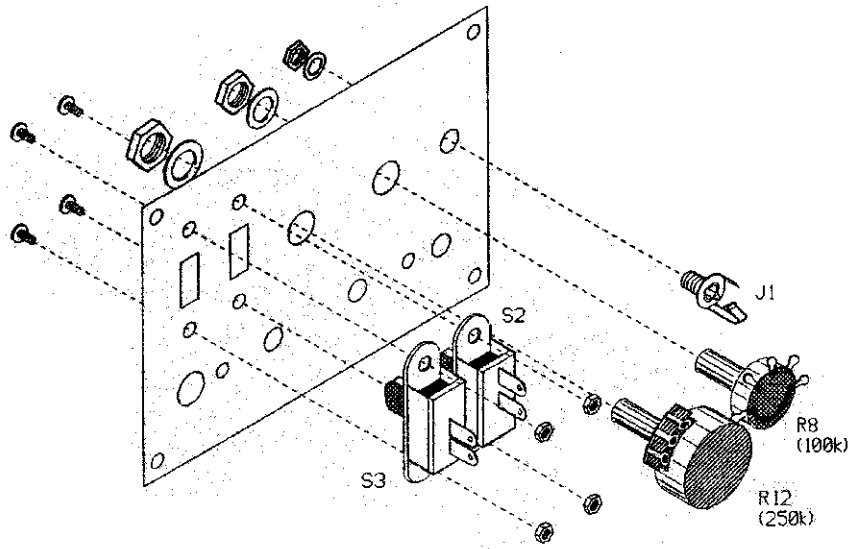

Fig 2. Mount the Switches, Potentiometers and Jacks in the locations shown. Before fully tightening the nuts orient the solder lugs as shown in Fig 3.
We will now use the hardware provided to mount the controls and input jack to the front panel as shown in Fig. 2. Notice that this drawing shows a rear view of the front panel.
- ( ) Using the (4) 4-40 X 1/4" machine screws and (4) #4 nuts mount the slide switches S2 and S3. If the switches provided have only two solder lugs apiece as those shown in Fig 2, orient them as shown. If the switches have 3 or 6 lugs, orientation is not important.